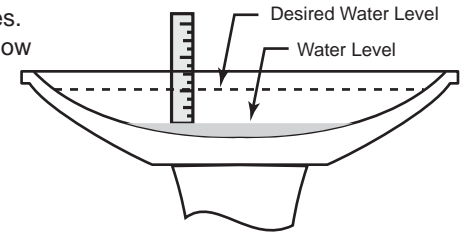

Figure 10
14) Wait until the water appears to stop flowing into the birdbath basin. This may take 10-30 minutes. Using a ruler, note how far the water level is below the desired water level (see Figure 10).